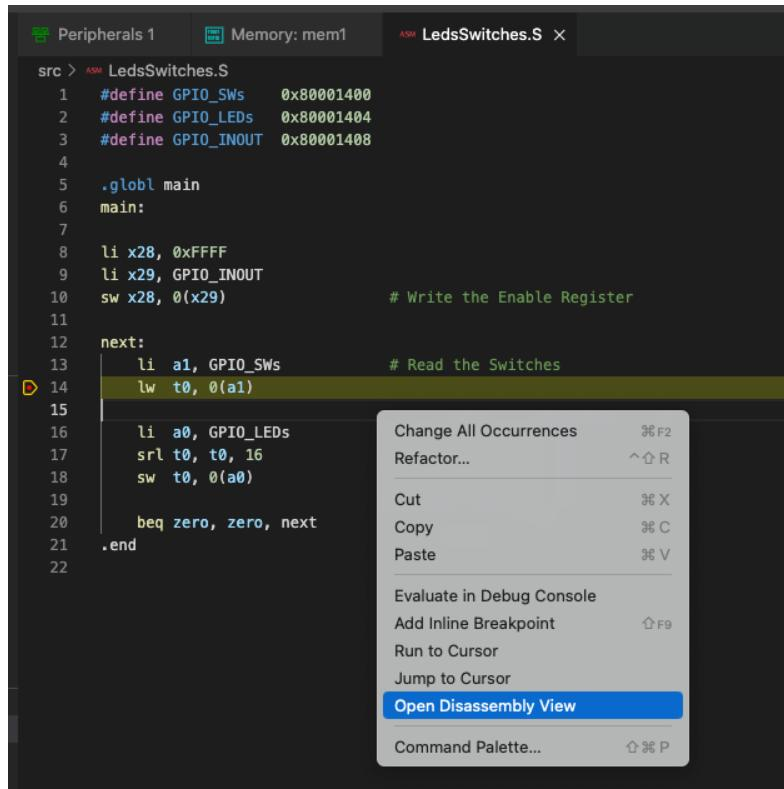

Figure 49: Opening Disassembly View
- a. Go back to the window that shows the code for your program, right-click, and select “Open Disassembly View” (Figure 49).